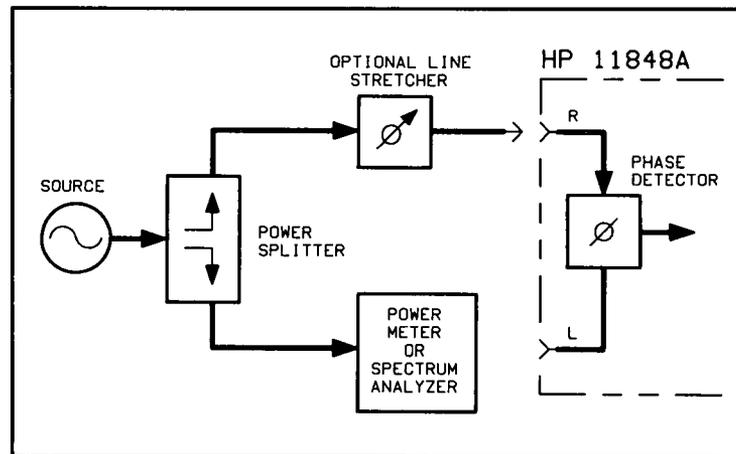

Figure 4-8. Measuring Power at Phase Detector L Port
- If you are not certain that the power level at the L input port is within the range shown in the preceding graph, measure the level using the setup shown in Figure 4-8.